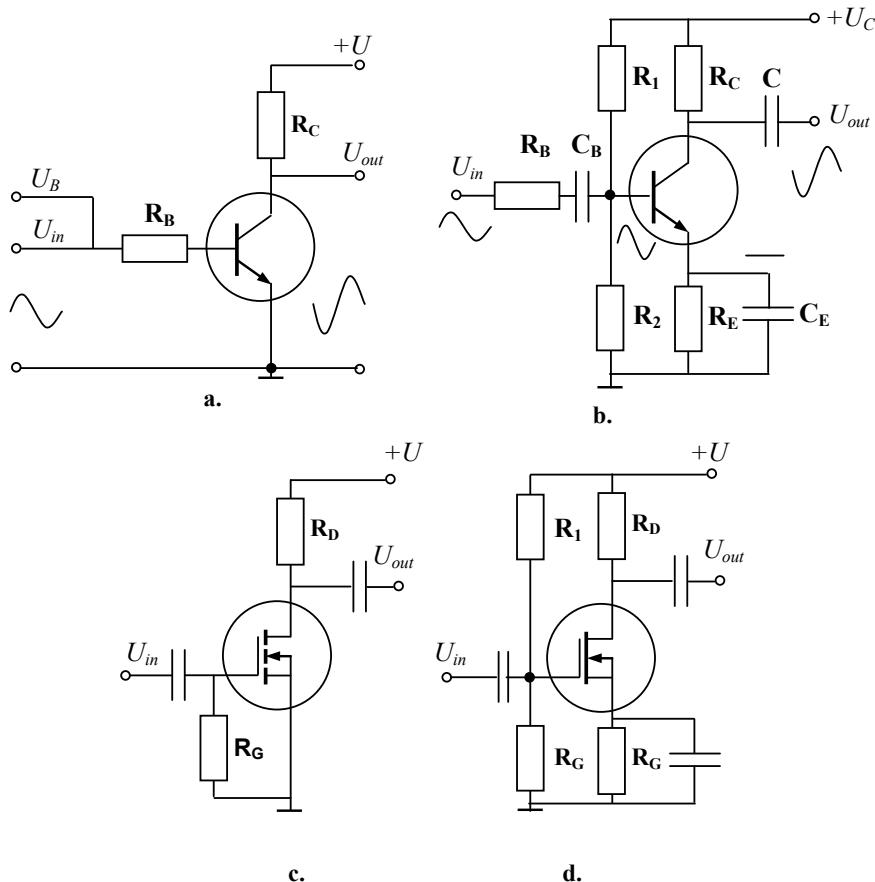

Fig. 2.11
**CE current amplifiers.** Fig. 2.11,a displays a simple transistor linear amplifier. Because the emitter is at the ac ground, it is the CE amplifier. In this circuit, the ac input signal  $U_{in}$  is added to the dc biasing voltage  $U_B$ . They produce a voltage drop in the base resistor  $R_B$ . As a result, the total base voltage changes in accordance with the input signal. Since the base voltage changes, the collector current changes also, as well as the voltage in the resistor  $R_C$  and in the load supplied by  $U_{out}$ . The amplified ac collector voltage is equivalent to being 180 degrees out of phase with the input voltage.
A transistor *current amplifier* used in practice is presented in Fig. 2.11,b. Here, variations in both resistor voltages (base and collector) and transistor currents take place similarly to as in the previous circuit. The only quantity that does not change is the emitter voltage because the emitter is at ac ground.  $U_C$  is the dc supply voltage that sets the  $Q$  point and  $U_{in}$  is the ac voltage that should be amplified. Except for external ac source, the dc biasing current enters the base circuit through the divider  $R_1R_2$ . Its value has to be higher than the maximum amplitude of  $U_{in}$ . In such a way,  $U_{in}$  will be amplified without clipping.
The figures below illustrate the current amplifiers with *n*-channel enhancement-mode MOSFET (Fig. 2.11,c) and depletion-mode MOSFET (Fig. 2.11,d). Each circuit has the common source, and the input voltage applied to the gate changes the output voltage signal. MOSFETs have very high input impedance at low frequencies (hundreds teraohms) whereas the BJTs input impedance is tens of megohms. These impedances drop down with the frequency growing.